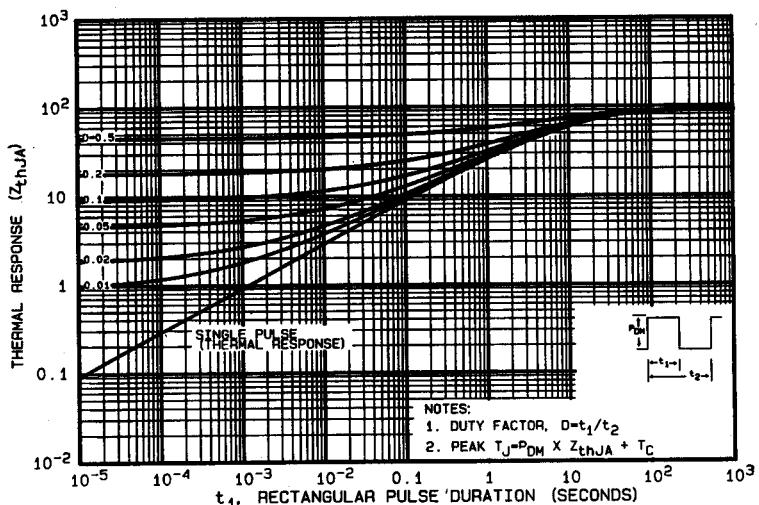

Fig. 23 — Maximum Effective Transient Thermal Impedance, Junction-to-Ambient Vs. Pulse Duration
⑤ Repetitive Rating: Pulse width limited by maximum junction temperature (see figure 23)